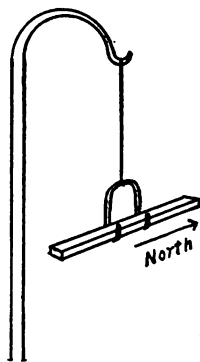

FIG. 174.—SUSPENDED MAGNET
**203. Poles of a Magnet Are Unlike.** If a magnet is suspended by a thread, as indicated in Figure 174, and left with no iron near, it always comes to rest in the same position, in a north and south direction. If turned out of this position it returns. Furthermore, if the north-seeking ends of two such suspended magnets are brought near each other, repulsion between these like ends results. This also happens when the two south ends are treated likewise. If, however, north and south ends are brought together, attraction results. We thus see that the two poles of a magnet are different, and that *like* poles *repel* and *unlike* poles *attract* each other. The north end is called the *north-seeking pole* and the south end is called the